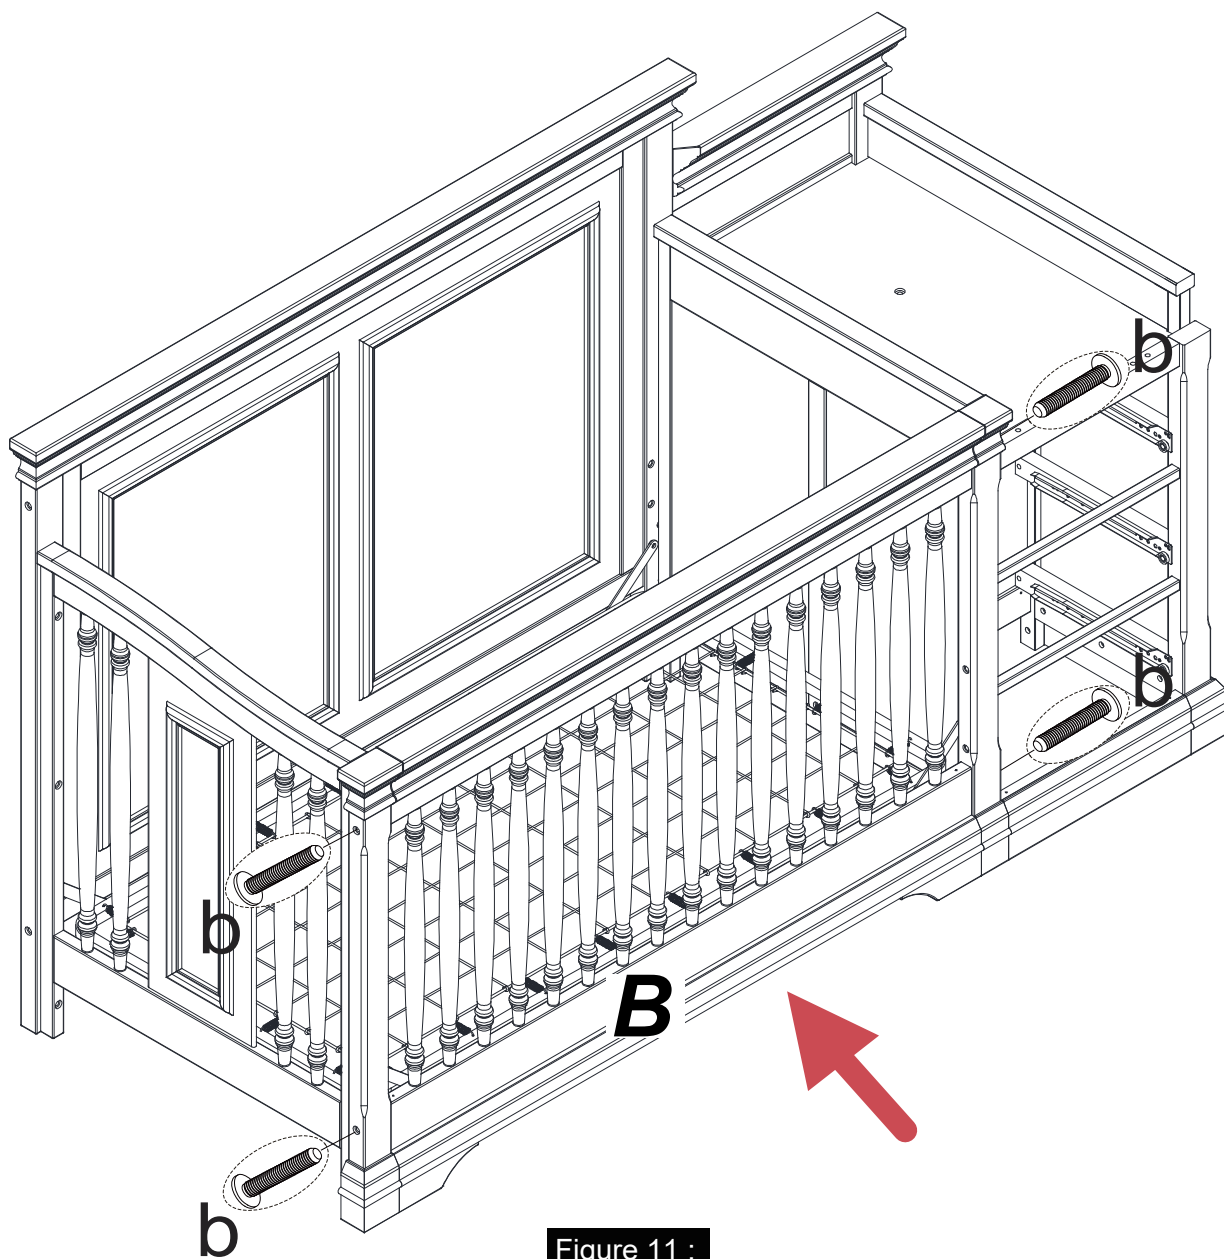

Figure 11 :
STEP 11 Attach the Front rail - B to Crib as shown on Figure 11.